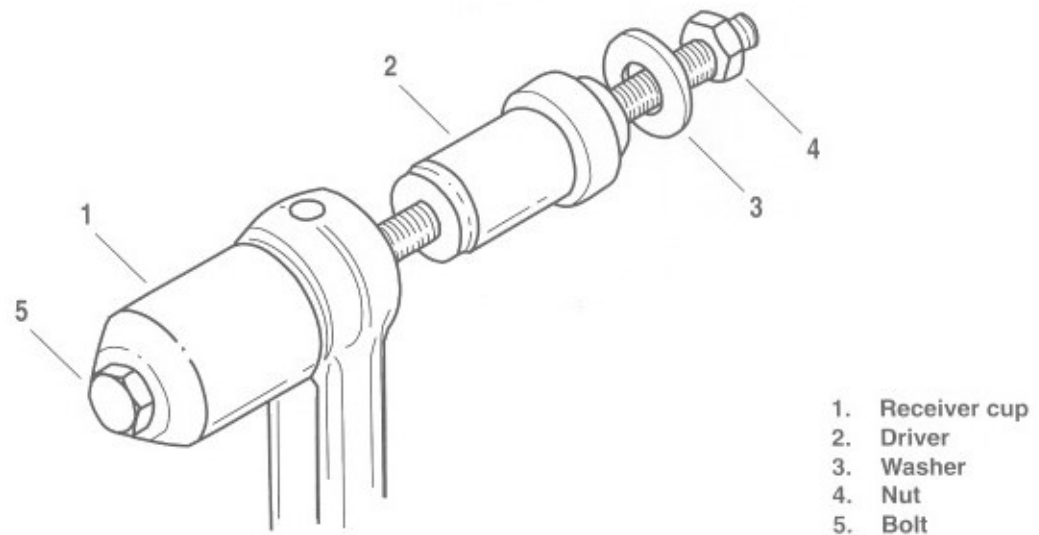

Figure 3-35. Piston Pin Bushing Tool Assembly for Bushing Removal
3. See Figure 3-35. Attach PISTON PIN BUSHING TOOL (Part No. HD-95984-32C) to the connecting rod (receiver cup on one side of the rod and the driver on the opposite side) as shown.